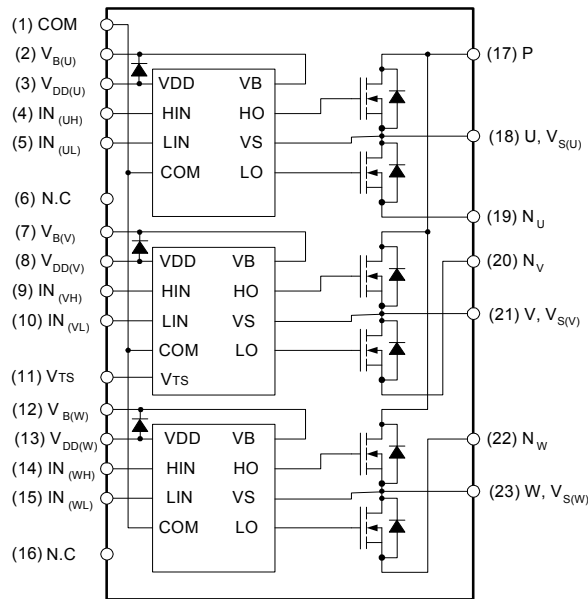

Figure 2. Pin Configuration and Internal Block Diagram (Bottom View)
- Built-in bootstrap diode includes around 15Ω resistance characteristic. Please refer to Figure 2.